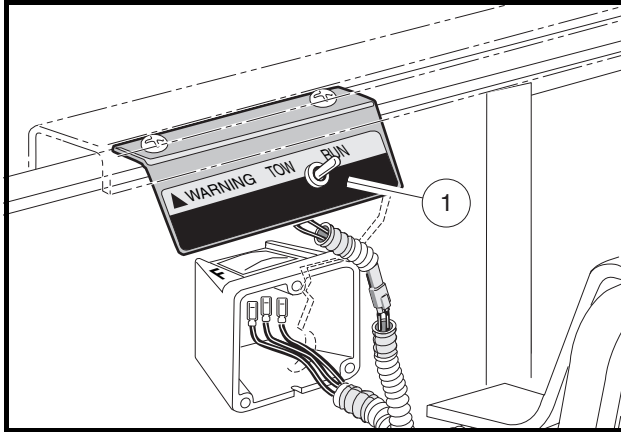
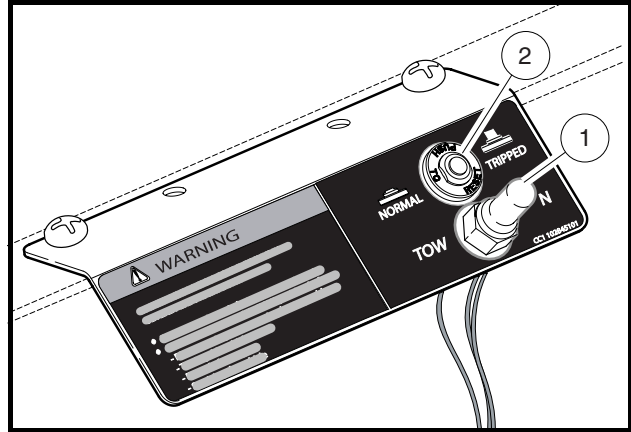

Figure 15 Tow/Run Switch – IQ System
Figure 16 Tow/Run Switch – IQ Plus
IQ System and IQ Plus vehicles are equipped with a Tow/Run switch (1), located on the seat support panel under the seat (**Figure 15** or **Figure 16**). The switch must be in the RUN position in order to operate the vehicle. When the switch is in the TOW position, power to the vehicle electrical components is turned off and the vehicle will not operate. **See following NOTE.**
IQ Plus vehicles are equipped with a circuit breaker (2), located next to the Tow/Run switch (**Figure 16**). If the circuit breaker has been tripped, a series of rapid beeps will sound and vehicle speed will slow to approximately one-half of its top programmed speed. In the event of a tripped circuit breaker, bring the vehicle to a complete stop, remove seat, and push the breaker to reset. If the circuit breaker trips again when vehicle operation is resumed, contact a local Club Car distributor/dealer.